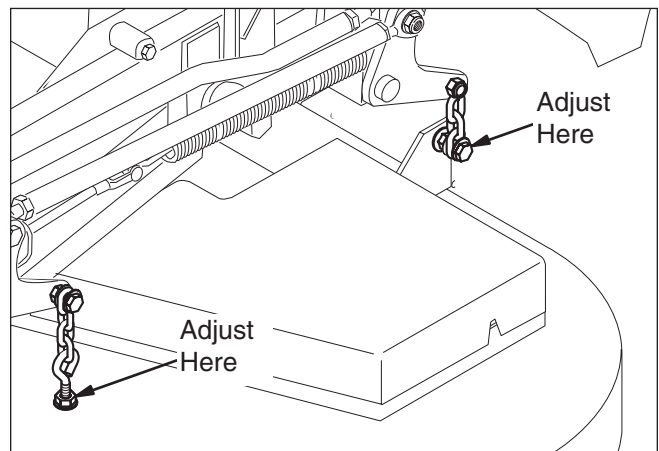

Figure 41. Hanger Chain Adjustment
4. Adjust the front eyebolts until the chains are tight and the deck is still resting on the 2 x 4's. Tighten jam nuts. See Figure 41.
5. Loosen the nuts and allow the rear of the deck to rest on the 2 x 4's and 1/4" spacers. Slide the chains down in the slots until the chains are tight and tighten the nuts. See Figure 41.